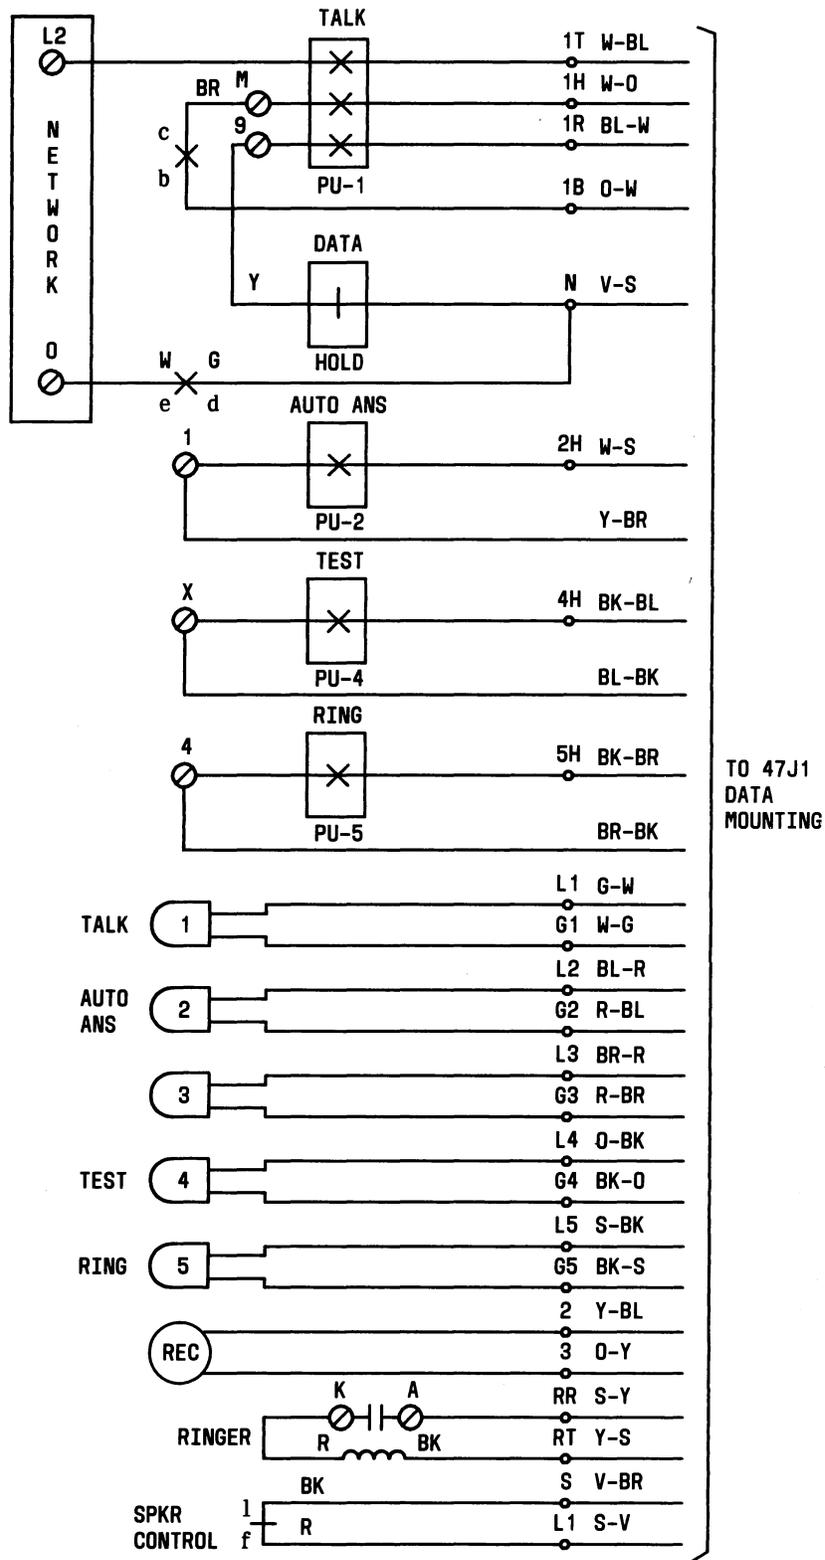

Fig. 3—2565HKM Telephone Set Schematic
2.007 The 565HKM or 2565HKM telephone set must be configured to provide the proper switch functions and lamp display. Figure 3 is a schematic of the 2565HKM telephone set. The necessary steps for making these modifications are as follows:
- (a) Remove, tape and store (O-BK) wire from (N).
- (b) Move (G) wire from (9) to (N).
- (c) Move (Y) wire from (M) to (9).
- (d) Locate (BR) wire from switchhook that is connected to (N) and move it to (M).